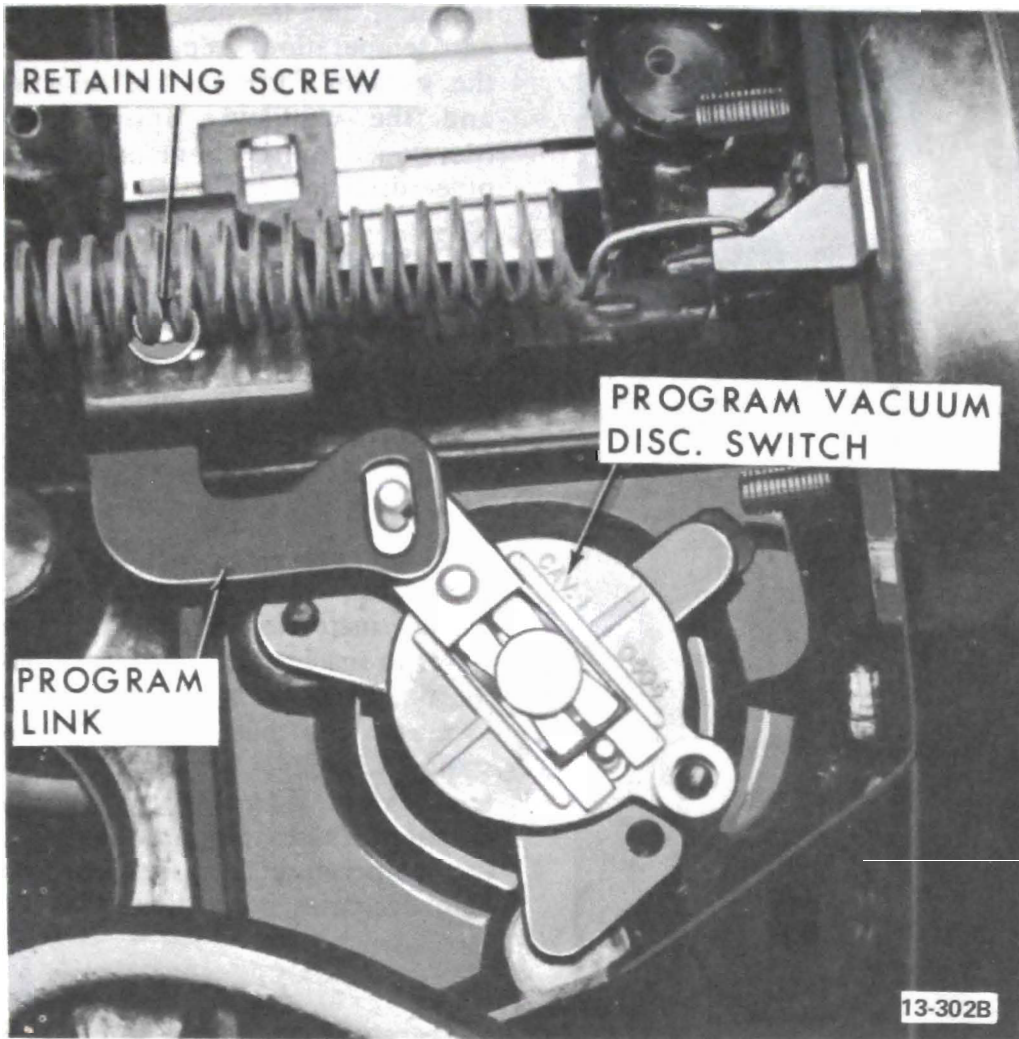
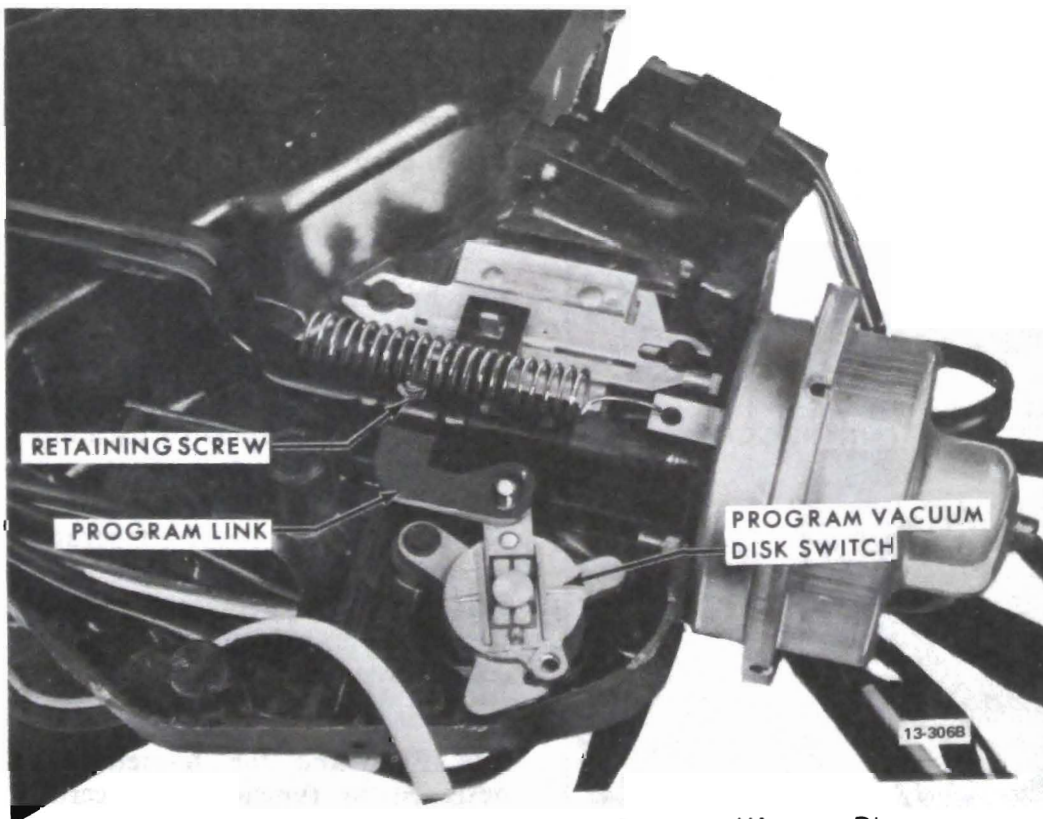

Figure 13-208 - 45-46-48000 Series Adjust Program Vacuum Disc Switch
Figure 13-209 49000 Series Adjust Program Vacuum Disc Switch
3. Start engine so that vacuum is applied to power (Manifold) side of PVA. With system in maximum A/C, such as obtained in paragraph 13-102, step 9, slowly reduce vacuum to pilot side of PVA to 3.0". Adjust program link on temperature door linkage, to pin on program vacuum disc switch, for A/C to heater mode shift. See Figure 13-208 for 45-46-48000 Series. See Figure 13-209 for 49000 Series.